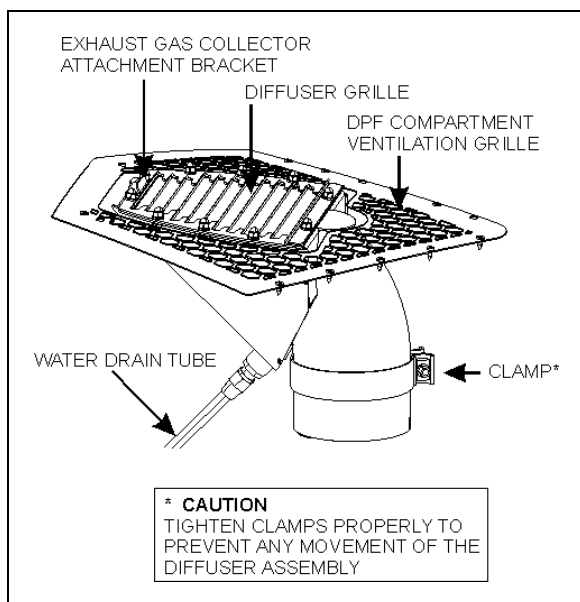
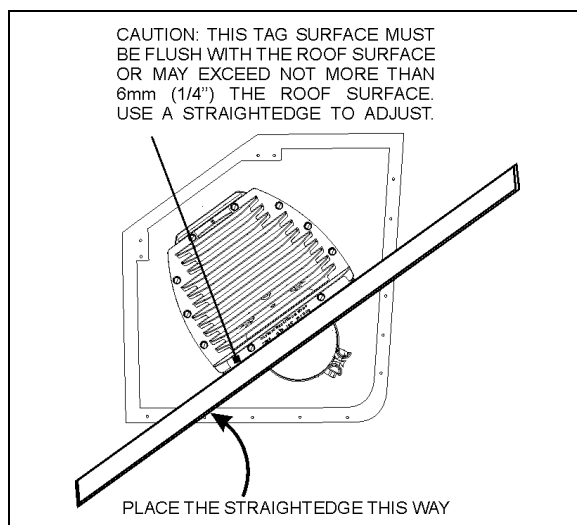

FIGURE 9: DIFFUSER ASSEMBLY
FIGURE 11: DIFFUSER POSITION ADJUSTMENT
3. Using a straightedge, adjust the diffuser assembly level. The top surface of the tag fixed on the diffuser grille must be flush with the roof surface (fig.9). It may exceed about 1/4in (6mm). Place the straightedge as shown on figure 11.